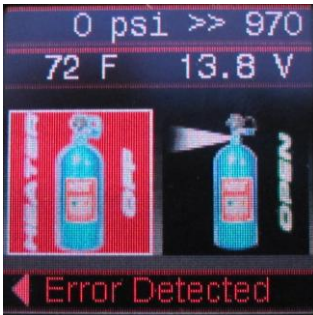

Figure 5
- The following are error codes that will show if there is a problem with the unit. If an error occurs, you will get an “Error Detected” message at the bottom of the screen (Fig. 5). To view the error, go back to the main menu screen, and click on “Error Detected” at the bottom of the screen. This will bring up the “Error Status” screen, which will show any errors present (Fig. 7).